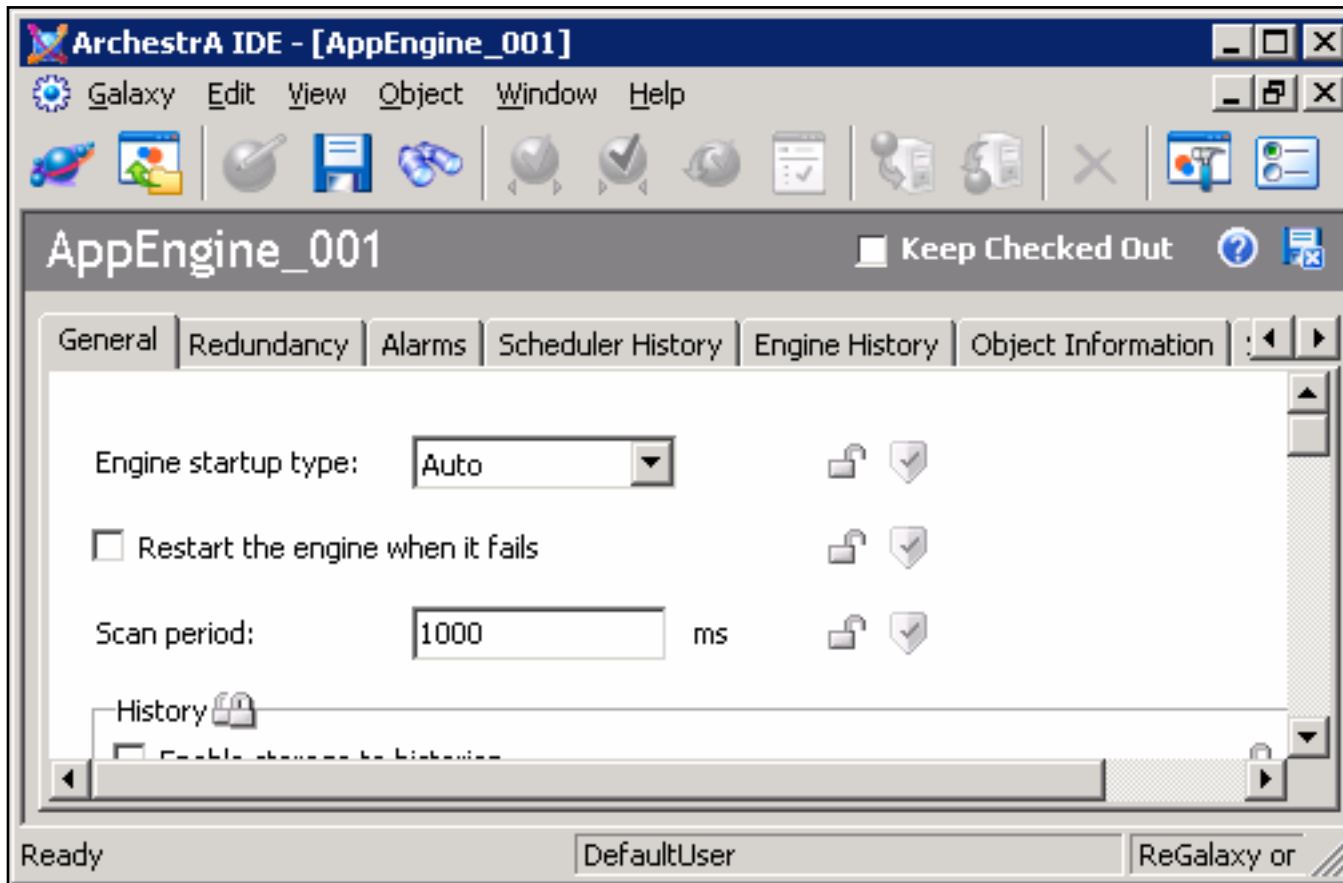

Figure 2: AppEngine Editor
10. **Restart the engine when it fails:** This feature is not recommended to use in a redundancy environment. If the engine hangs or fails, failover occurs. By default this check box is not selected (Figure 2 below):